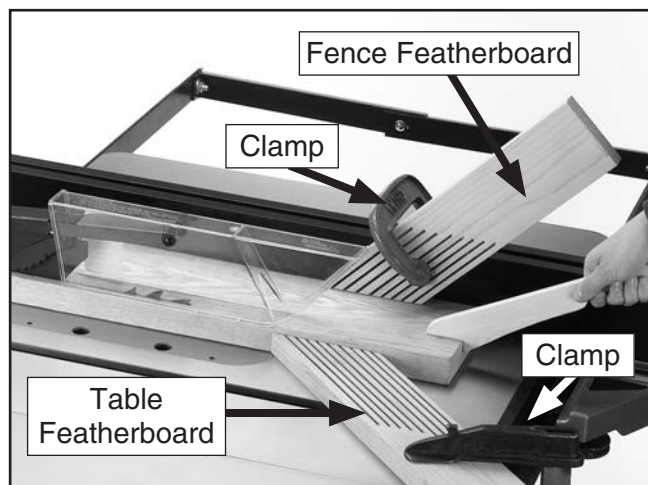

Figure 109. Example of featherboards secured with clamps.
3. Place a featherboard on the table away from the blade so all fingers point forward and contact the workpiece (see **Figure 109**).
6. Mount a second featherboard to the fence with another clamp (see **Figure 109**), then repeat **Step 5** to ensure it is secure.